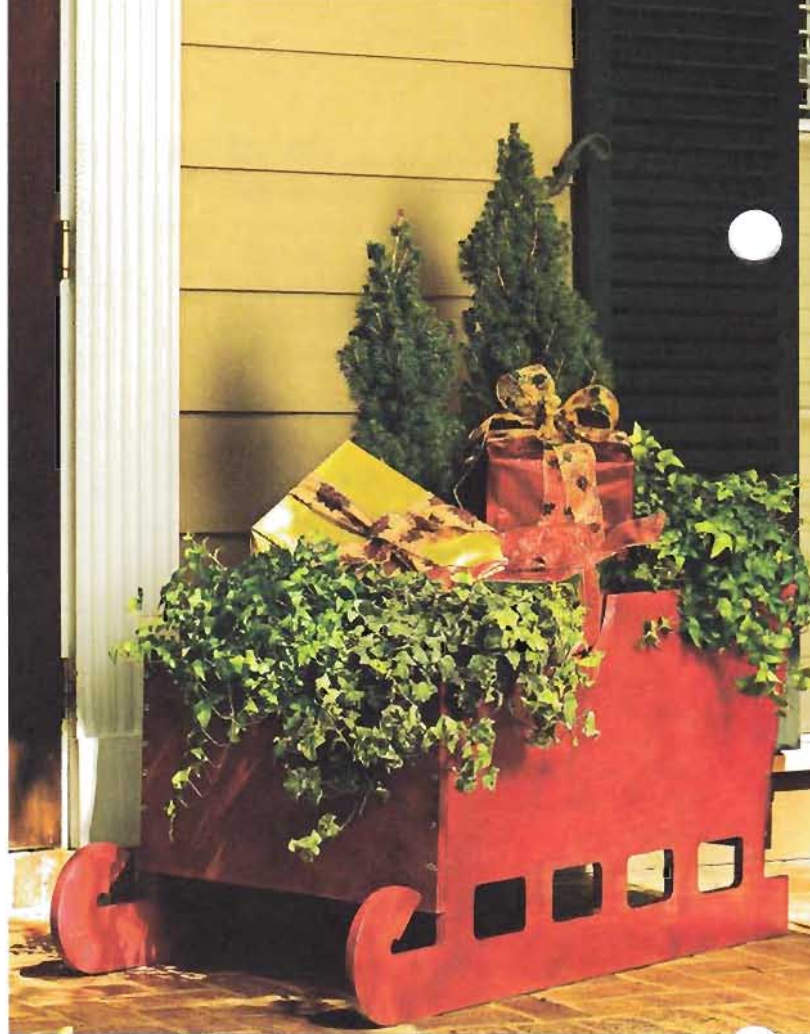

Figure 1
Step 1: Make your major cuts first as shown by Cut #1, Cut #2, and Cut #3 in Figure 1. There may be slight discrepancies in the dimensions due to the saw kerf (the width of the saw blade cut), but these will not matter.
Step 3: Cut the remaining parts from the pieces you cut in Step 1, according to the Cut List. Using a 1-inch bit, drill drainage holes in the bottom panel as shown in Figure 1.
panel and back filler with glue and wood screws according to placement shown in Figure 1.